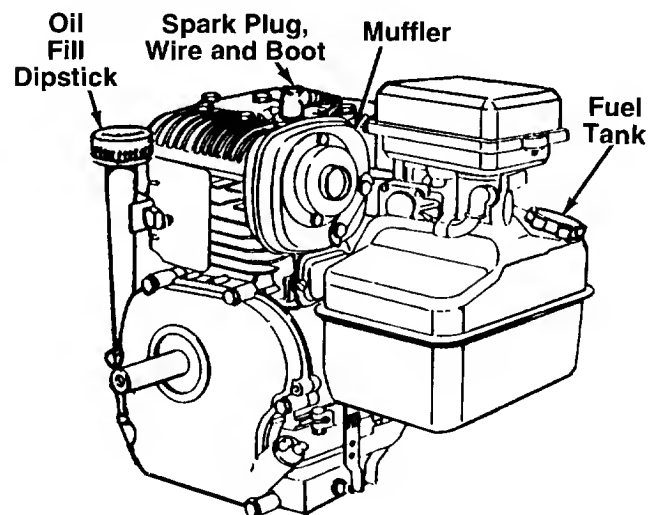

FIGURE 8.
- Attach spark plug wire and rubber boot to spark plug if necessary. See figure 8.